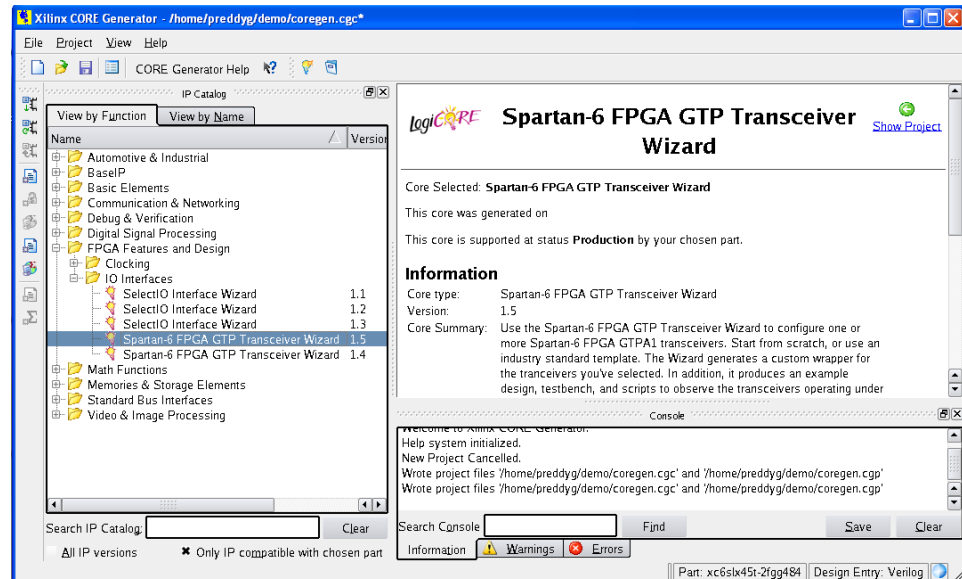

Figure 3-4: Locating the GTP Transceiver Wizard
1. Locate the Spartan-6 FPGA GTP Transceiver Wizard 1.6 in the taxonomy tree under: /FPGA Features & Design/IO Interfaces. (See Figure 3-4)